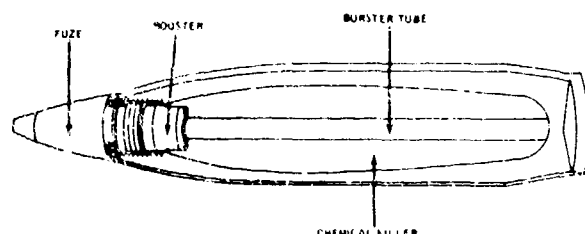

Figure 11-5. Bursting tube explosive train.
b. *Bursting tube explosive train.* The second explosive train in a chemical round of gas or white phosphorus is a bursting tube explosive train (fig 11-5). It consists of a fuze, a booster, and a small burster tube filled with tetryl or tetrytol. This tube extends through the longitudinal axis of the projectile. The shell contains gas or white phosphorus filler. When the fuze functions, the booster so amplifies the shock wave that the burster tube breaks open the projectile; thus the chemicals escape from the interior of the projectile and spread throughout the target area. These rounds are available for 105-mm and 155-mm howitzers. The 8-inch howitzer does not have a white phosphorus round but has a gas-type round—the M426—that can be filled with either GB or VX (table 11-5).